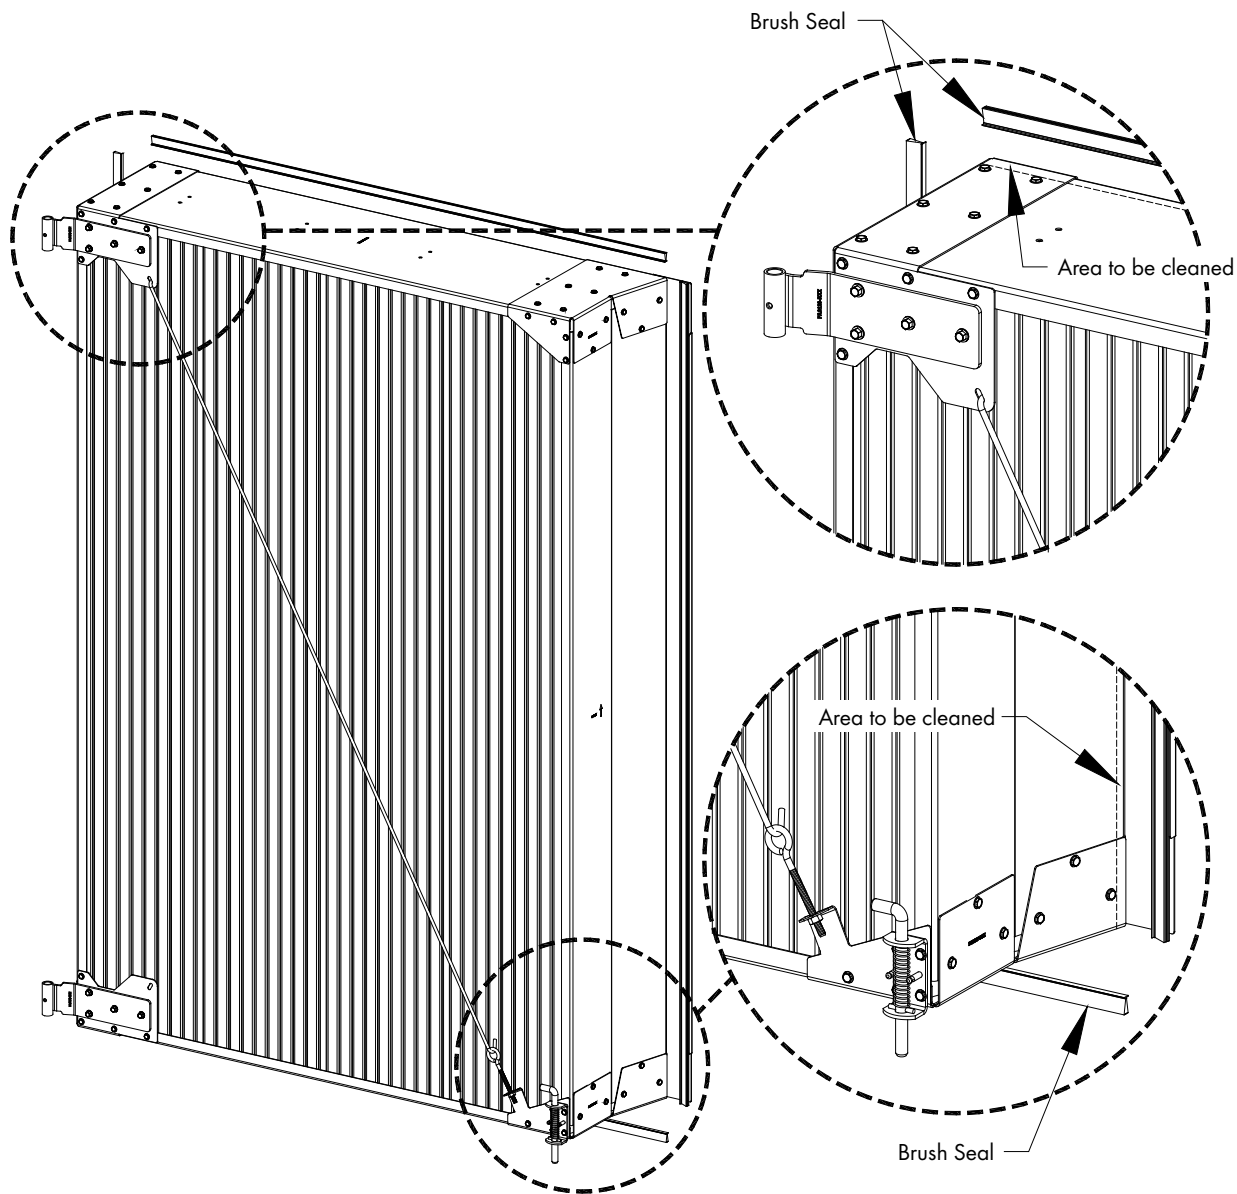

Figure 14
Clean a 1" strip of the galvanized panels and corner brackets on all 4 sides, along the edge of the door opposite the Leaf Hinge and Spring Latch. Cut the roll of Brush Seal into 4 pieces, (2) at 50"L. and (2) at 72½"L., then peel the backing off of the Brush Seal and carefully stick them to the 4 sides of the door where they were cleaned. See Figure 14.